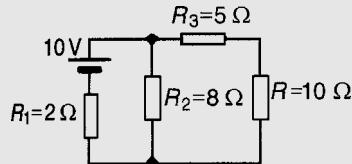

Figure 13.37
**Problem 7.** Use Thévenin's theorem to find the current flowing in the  $10 \Omega$  resistor for the circuit shown in Fig 13.37
Hence the current flowing in the  $10\Omega$  resistor of Fig. 13.37 is **0.482 A**.